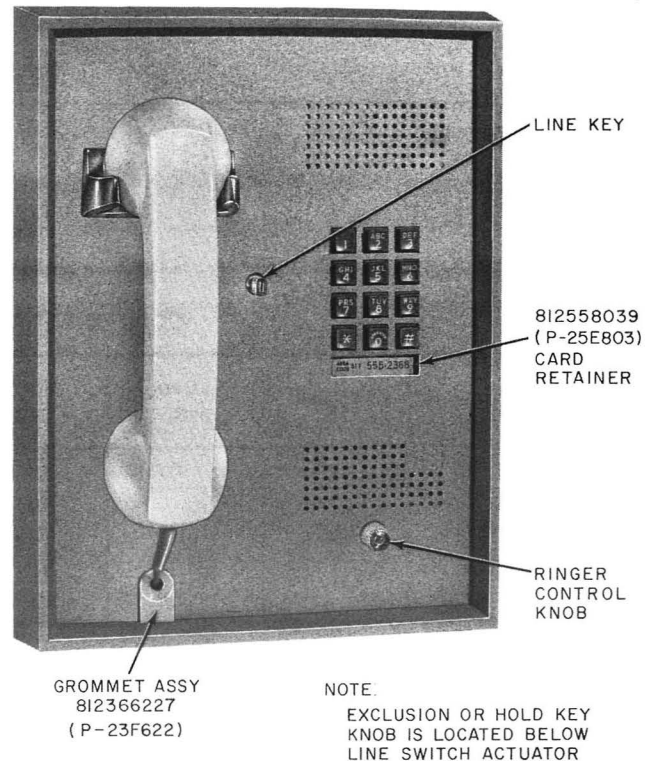

Fig. 1—2751-Type Telephone Set
1.01 This section contains information for the 2751-type telephone sets (Fig. 1). ***These sets are intended for business type service only.***